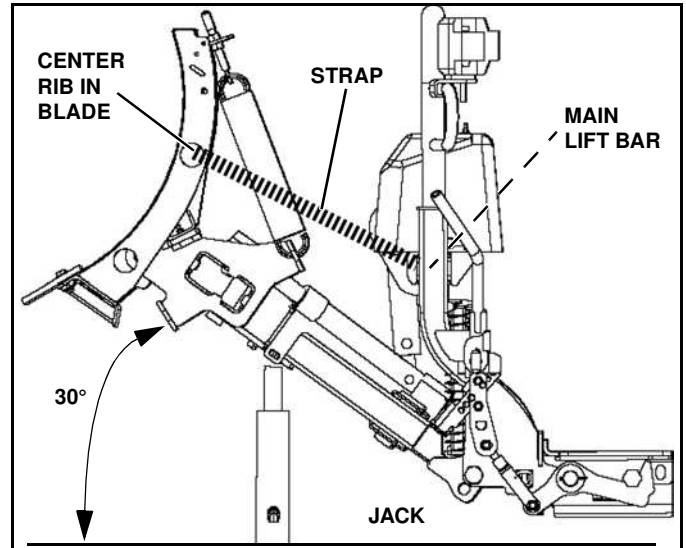

Figure 1-43
2. To lift plow, position jack under A-frame and angle up to a minimum of 30° (or up to the lift stops). (See Figure 1-43).